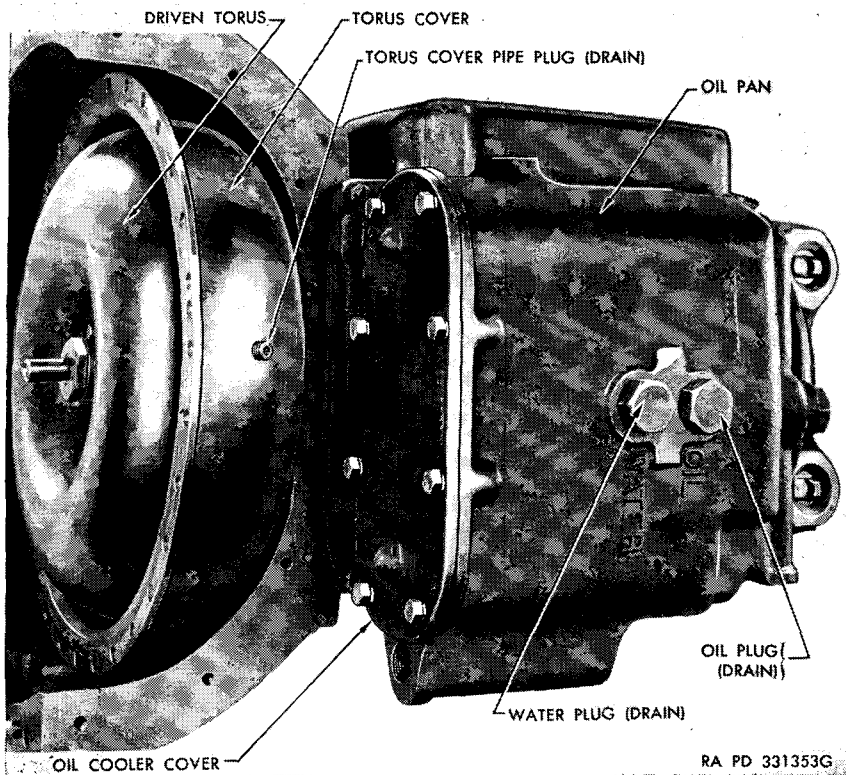

Figure 108. Transmission drains.
- (5) *Drain transmission.* Install socket wrench on engine crankshaft pulley mounting screw and turn crankshaft until torus cover drain plug is at the bottom. Remove drain plug in torus cover and in transmission oil pan (fig. 108) and drain transmission. Install drain plugs.
- (6) *Remove transmission.* Install lifting eye bolt —41-B-1586-300 in top of transmission case. Connect hoist to eye bolt and take up weight of transmission. Remove 30 screws that hold flywheel cover to flywheel.